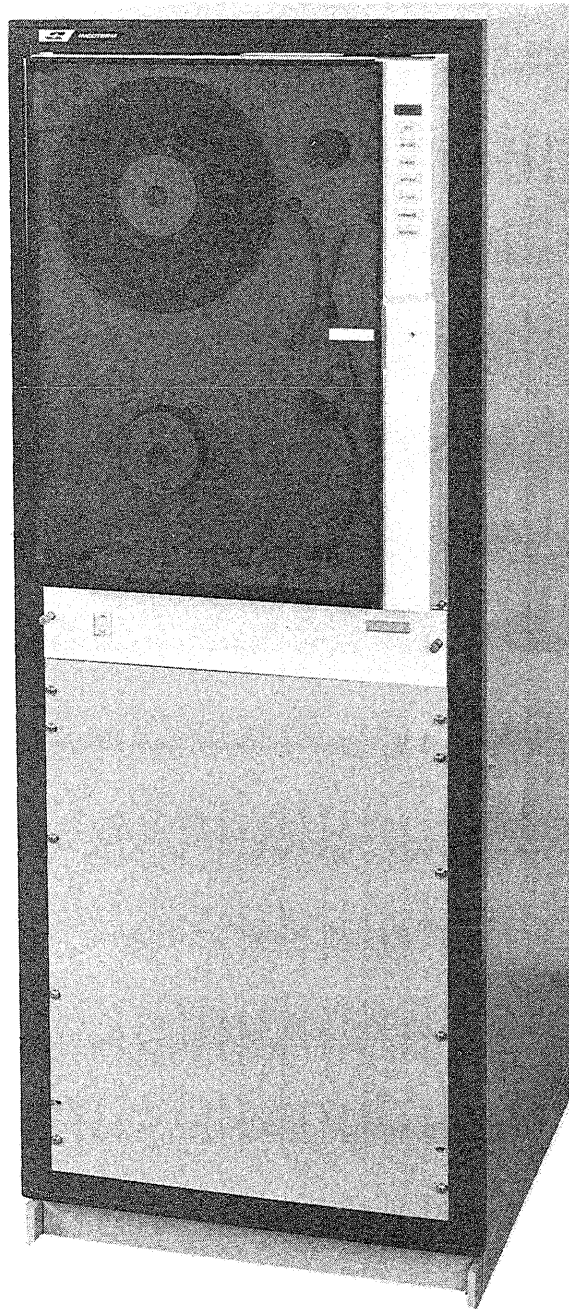

Figure 2-9. Magnetic Tape Unit.
The SPD-MT Half-Inch Magnetic Tape Subsystem (Figure 2-9) provides the SPD 10/25 Display Terminal System with a low cost, high performance, bulk storage capability for a wide variety of data communication system applications. The SPD-MT consists of three (3) basic models; the SPD-MT,